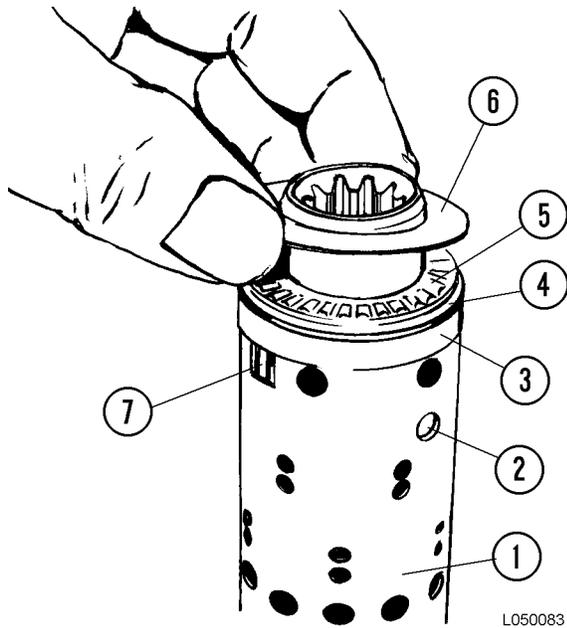

FIGURE 5-10. BEARING INSTALLATION
6. With neutral position springs (7, Figure 5-10) centered in spool and sleeve, install ring (3), rear bearing race (4), thrust bearing (5) and front bearing race (6) in that order. The chamfer on the rear bearing must be facing away from the bearing.